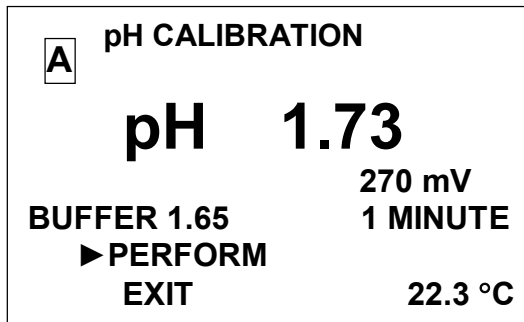

Fig. 2.13
**enter**" button. The display shown in Fig. 2.13 shall come up.